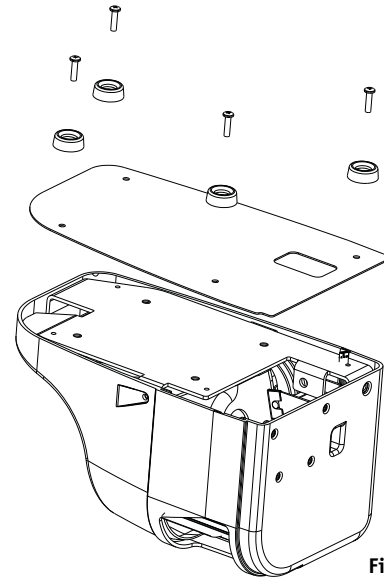

Figure 2
Insert each screw into one of the four (4) rubber feet provided. Place the cover plate in place on the back of the Powerhouse assembly and secure it in place with the four screws and rubber feet. Tighten the feet finger tight; if necessary, gently tighten with a Phillips screwdriver. Do not overtighten (Figure 2).